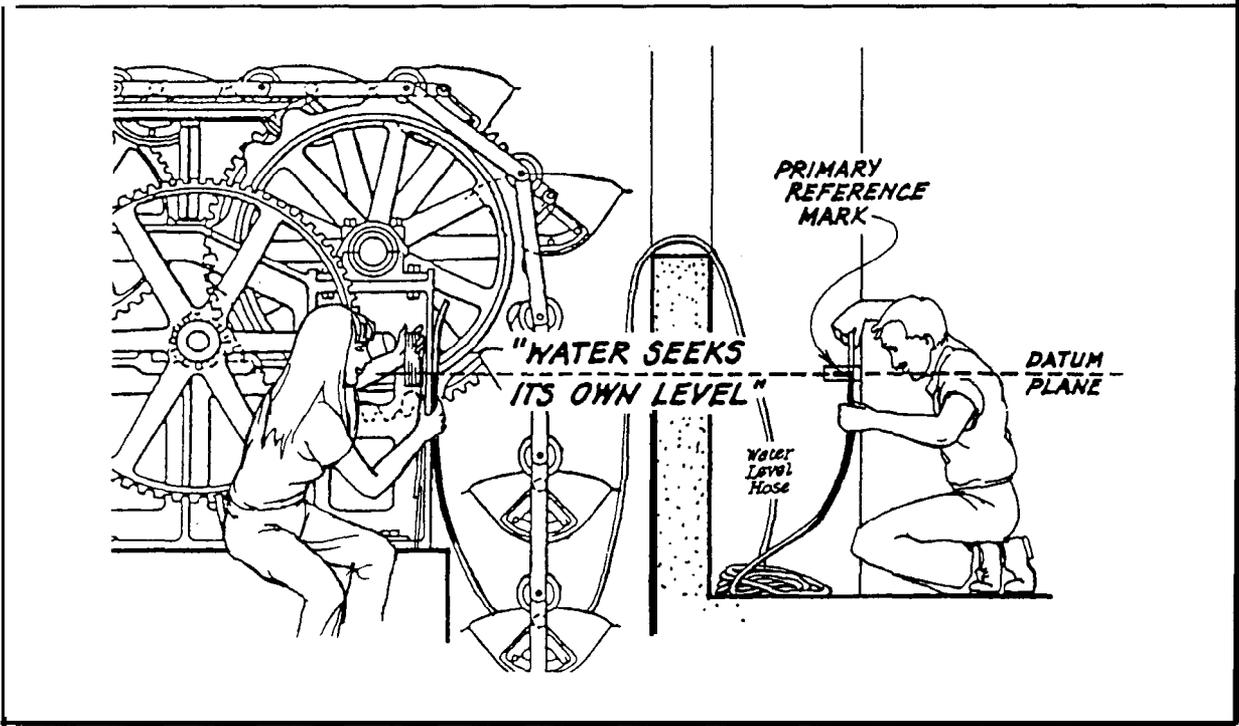

Fig. 4.8
1) Water Level: This device is extremely simple, cheap, effective, and nearly foolproof for setting level reference planes at a site or structure. It probably antedates the Egyptians, and operates on the elementary principle that water seeks its own level (see Fig. 4.8). If it were practical, you could set a horizontal datum plane at your site by filling the site with water, and marking where the water surface intersected the structures on a calm day. The water surface would be dead level due to water’s response to gravity. A water level performs the same function without the flood. If you put water in a tube of any practical length with open ends, and hold the ends in the air, will be level with each other regardless of intervening terrain. (You will need to allow some time for water to settle from inertia and friction in the tube). Add some means of closing the tube ends so the water won’t spill when the level is stored, and perhaps a coloring agent for easier visibility, and you have a very versatile tool.